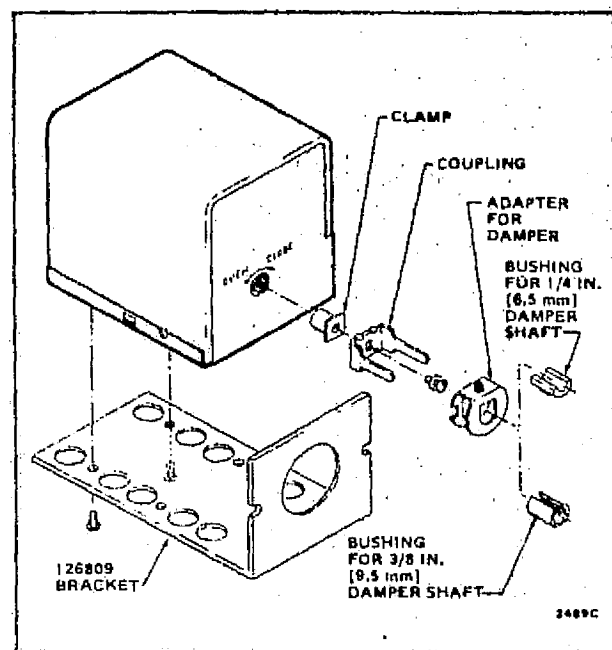

FIG. 4-EXPLODED VIEW SHOWING HOW TO MOUNT 7640JE DAMPER SHAFT COUPLING AND 7640JM MOUNTING BRACKET ASSEMBLY TO MOTOR.
2. 7640JE Bag Assembly-drive bushings, adapter, and coupling for direct drive (Figs. 4 and 7).